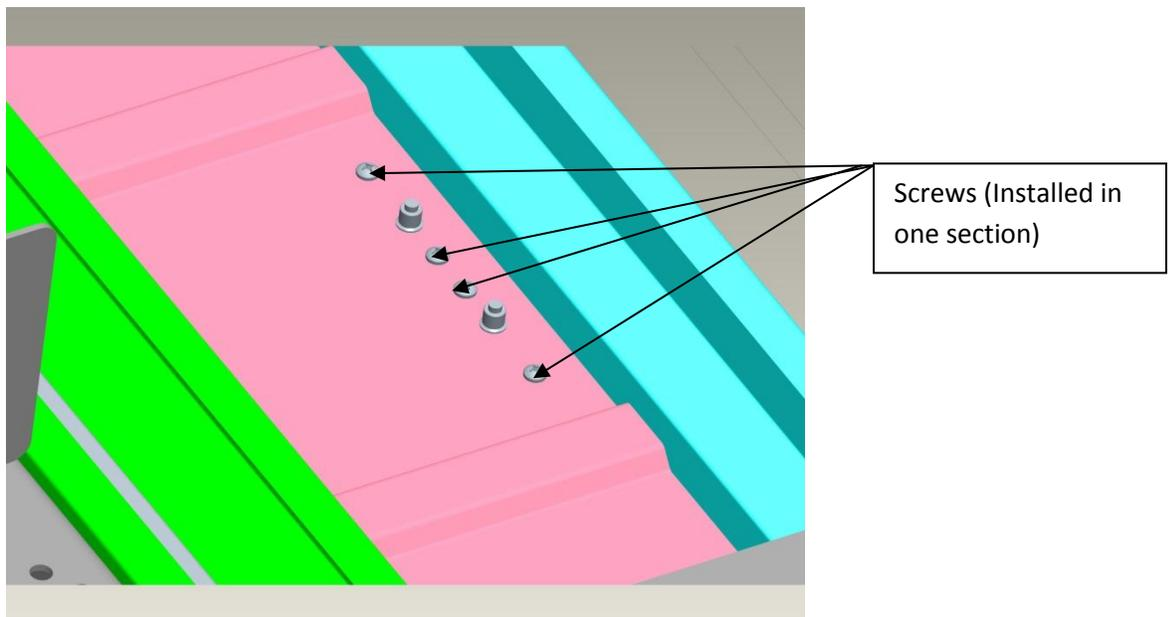

Figure 5
5. Once you have found a sheet that is galvanized then you will need to repair each end (the ends at the left and right side of the bus). This requires adding extra fasteners between the existing fasteners. For the locations that are at the ends of the floor, sheet rivets will be used (TBB69005005 3/16" pop rivet). Between the screws that are coming down from inside the bus there will be 2 rivets installed. Drill two .191 diameter holes equal distance between the existing screws as shown in between existing side lining attachments. Drill these holes 1 1/8" distance from each other. There are only 2 screws shown but this is to be done between each set of screws all the way across the floor sheet on both ends (see Figure 3). Make sure that the fastener tightens all the way up against the metal. This may require removing more undercoating(see figure 3).Also, in hard to reach places where a pop rivet gun will not reach, screws can be substituted such as shown in Figure 5. If you are unable to distinguish between galvanized and galvanneal then proceed with the procedure for all sheets.
- 7 If the sheet that you have to repair is the last sheet in the bus (the one that butts up to the emergency door) it will require this to be done on three sides. The two ends will just be a repeat of the above steps. The edge facing the rear of the bus will use screws (TBB P/N 69003248 #12 screws) at each pin and collar configuration. Scrape away any undercoating so that holes can be drilled and the fastener will mount metal to metal. Drill four 5/32" holes in line with the pin and collar fasteners as shown in Figure 5. This will be done at each location the pin and collar fasteners are along the back of the bus. Two of the screws will be installed between the two pin and collar fasteners at 1.15" from each screw. Then one on each side of the row for a total of 4 screws.